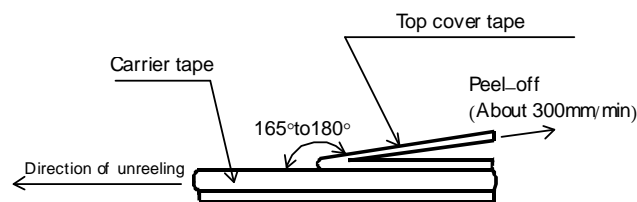
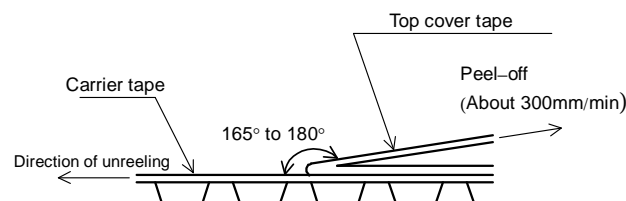

Figure-9
Figure-10
- 5). The peel strength of the top cover tape shall be within 0.1N to 0.5N on the test method as shown in the following RLC10, 16, 20, 32: Figure-9, RLC35, 50, 63: Figure-10.